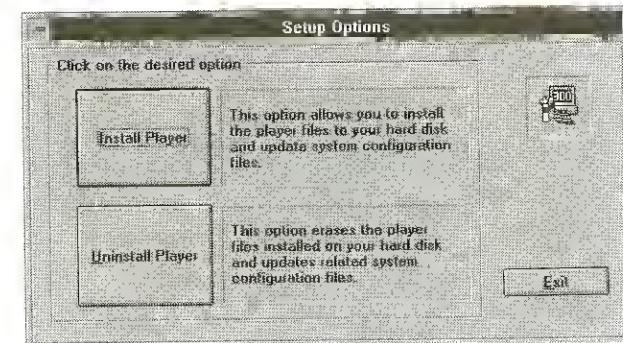

Figure 3-3: The Setup Options dialog box.
- In the Welcome dialog box, choose Continue. The Setup Options dialog box in Figure 3-3 appears.
Your 3DO Blaster's software is now installed. You can reverse the installation process resulting in removal of all 3DO software and the installation directory created by SETUP.EXE. To do that, choose Uninstall Player in the Setup Options dialog box shown in Figure 3-3.